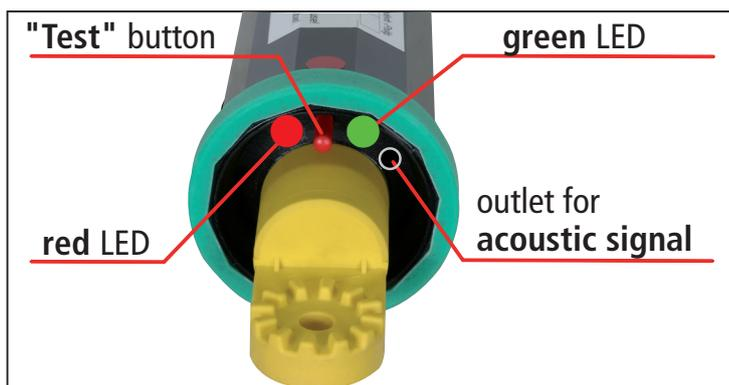

Fig. 4.3.2a
- Before testing, press the **"Test"** button to switch on the non-contact voltage detector. When releasing the **"Test"** button, the **green LED** lights up (see Fig. 4.3.2a).